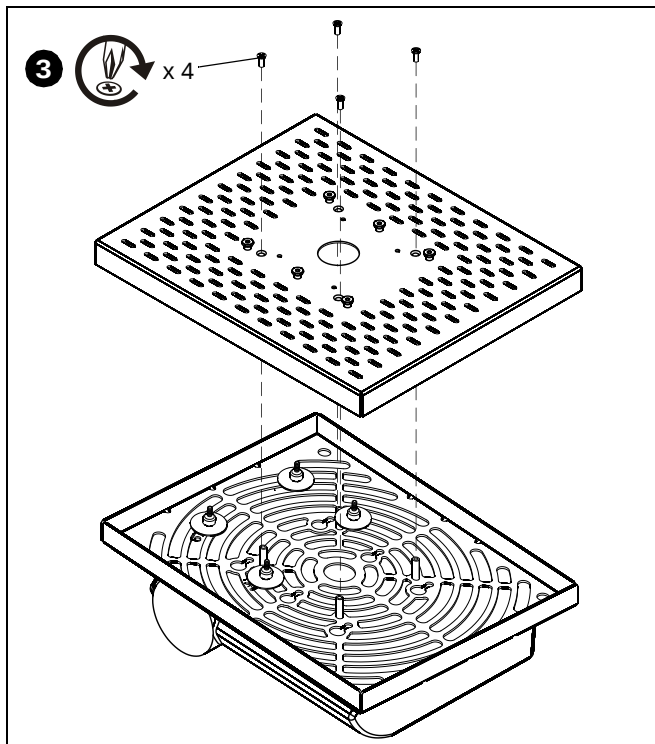

Figure 6
3. Attach RPMA1 bottom to RPMA1 top using four Phillips screws removed in Step 5 of **Installing Ceiling Plate and Disassembling RPMA1**. (See Figure 6)